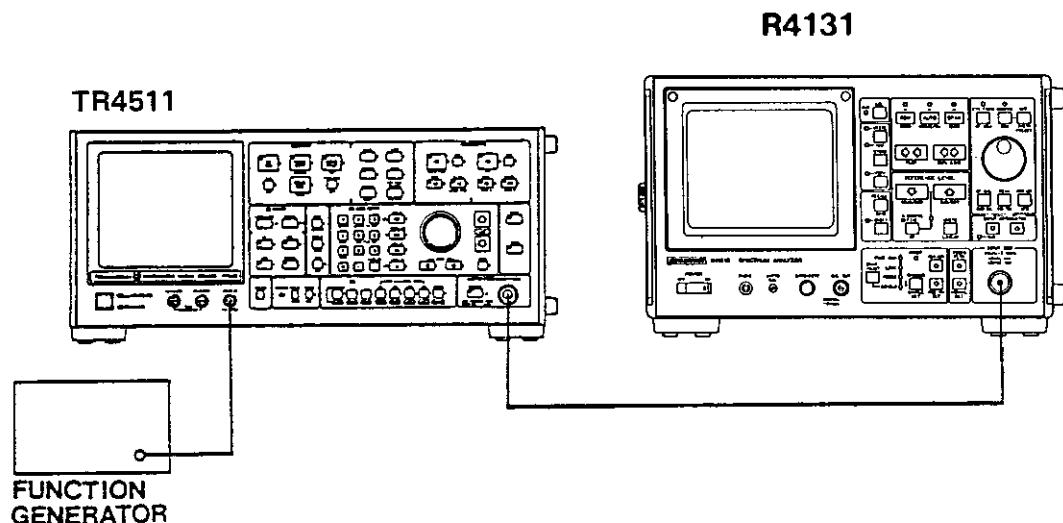

Figure 11-2 Frequency Span Test Setup
- (12) Next, perform frequency span 200 kHz to 50 kHz tests using the same setup as shown in Figure 11-2.
- (13) Set the output of the TR4511 synthesized signal source as follows: